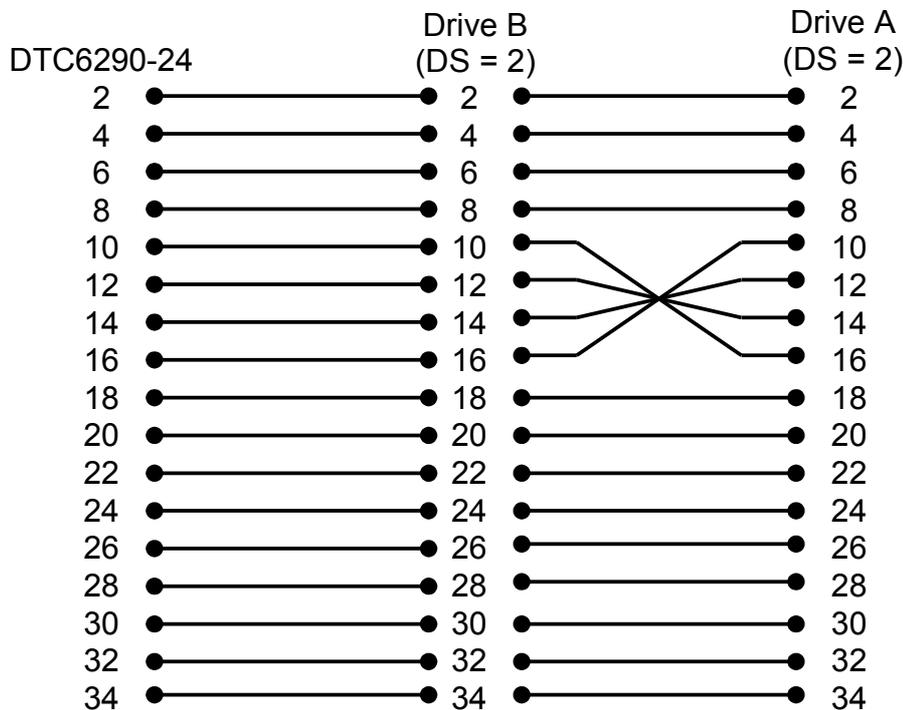

Figure 4
- Installing one floppy disk drive requires one 34-pin standard twisted cable. Figure 4 shows a standard floppy disk drive cable. Follow the directions described below.
Installing two floppy disk drives requires one 34-pin standard twisted cable. Figure 4 shows a standard floppy disk drive cable. Follow the directions described below.